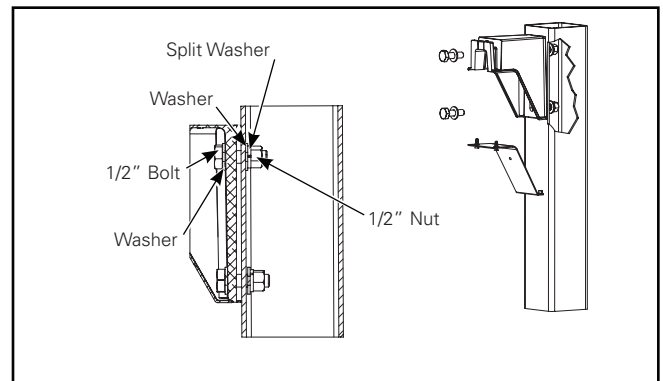

Figure 11.
3. Using provided $\frac{1}{2}$ " hardware, secure the pole mount arm to pole. Torque bolts to 40 ft-lbs. (Figure 11.)